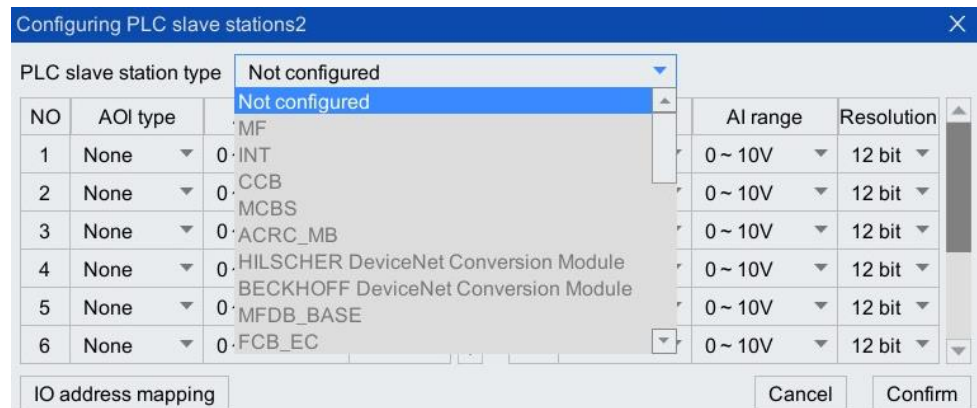

Figure 18-34 [Configure PLC slave station] interface
Step6. Select the serial number to be configured, click < Configuration >, and enter the [Configuration PLC Slave] interface. As shown in Figure 18-34.